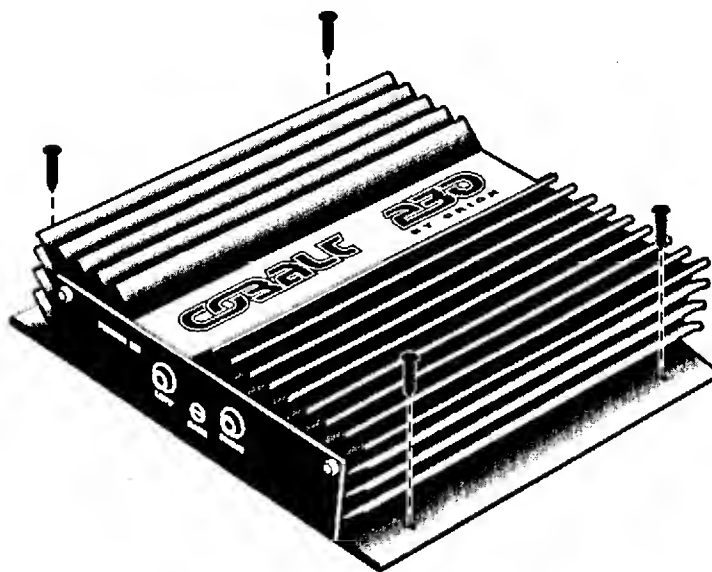

Fig. 13. Mounting hole locations on a COBALT 230 amplifier.
4. Mount the amplifier in the desired location and securely tighten the four self-tapping screws, as shown in Fig. 13.